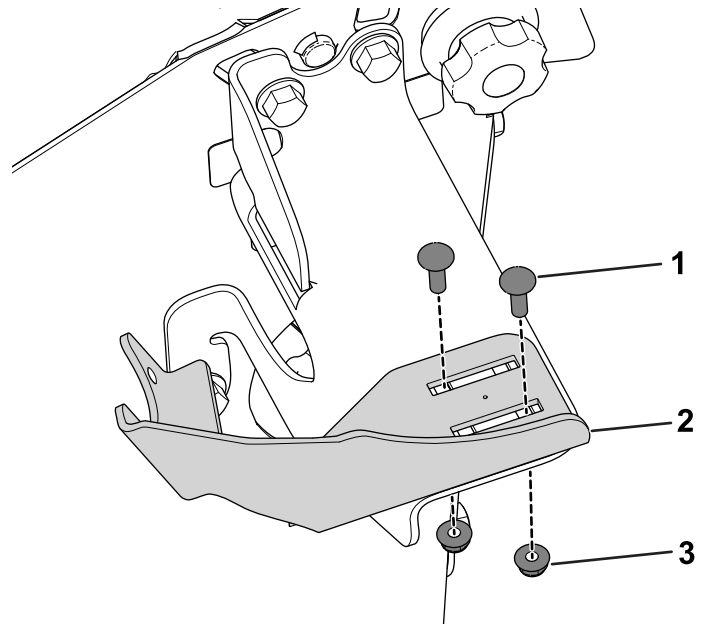

Figure 3
4. Use 2 carriage bolts (1/4 inch) and 2 flange nuts (1/4 inch) to secure the upper clamp mount to the upper mount bracket (Figure 3).